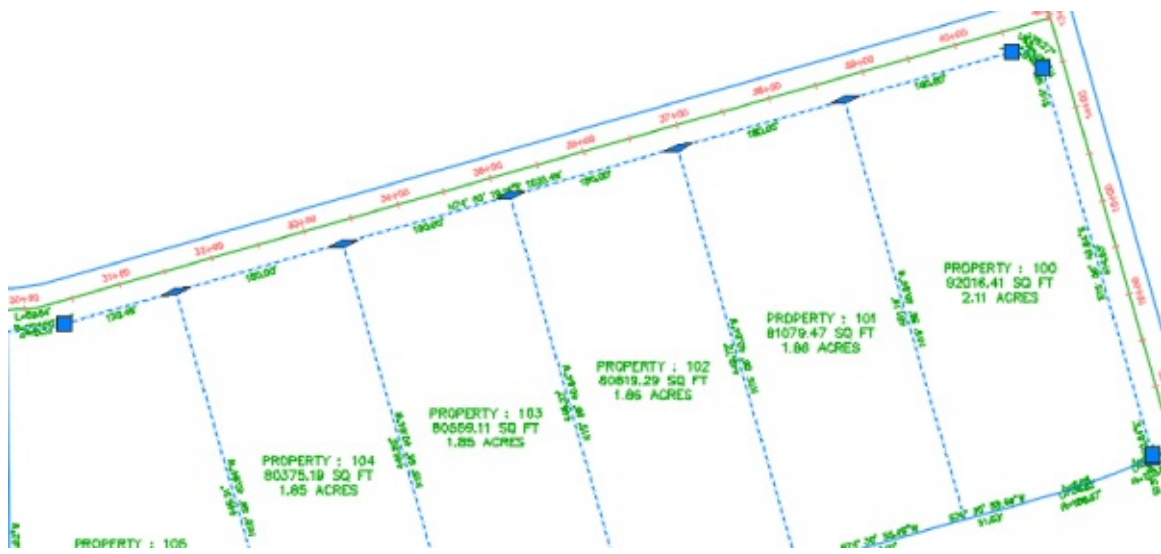

Figure 5.62 A spanning label
Spanning labels are used where you need a label that spans the overall length of an outside segment, such as the example in Figure 5.62.
- Spanning label styles must be composed to attach the desired spanning components (such as length and direction arrow) on the outside segment (as shown previously in Figure 5.62), with perhaps a small offset.
A label that spans the full length between natural vertices appears (see Figure 5.62).